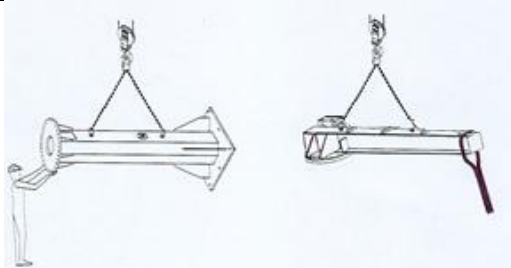

fig. 15
- Sling the crane parts with suitable equipment in order not to damage the painted surfaces. (fig. 15)